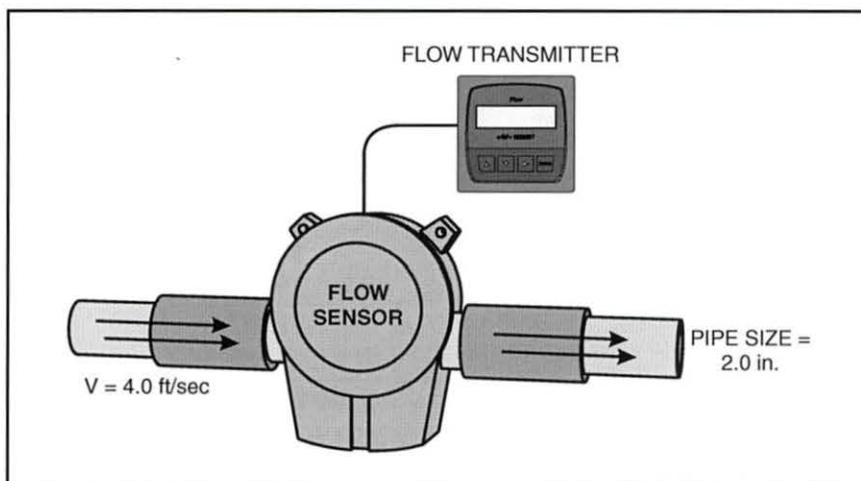

Figure 8. Liquid Velocity through a Pipe
- 1. Calculate the volumetric flow rate (in gpm) of the liquid flowing through the pipe in figure 8 using the following information: